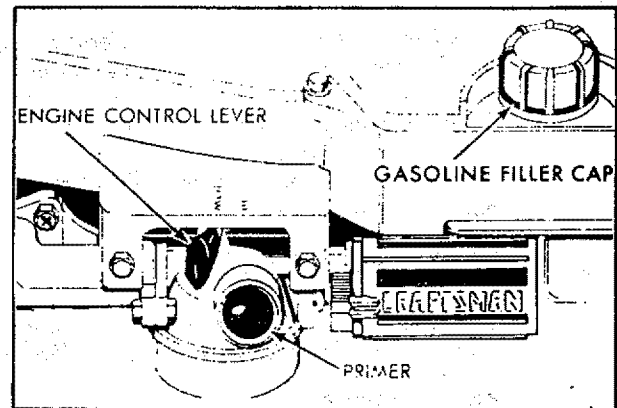

FIG. 14
The engine speed is controlled by a lever (red knob) located on right side of engine. It has "HIGH" and "LOW" positions. "HIGH" position is for starting engine, heavy cutting and better grass bagging. "LOW" position is for light cutting, trimming and fuel economy (See Fig. 14).
2. Push lever forward to "HIGH" position (See Fig. 14).
3. When starting a cold engine, push the primer five (5) times before pulling starter rope. Use firm pushes when pushing primer, wait several seconds between each push (See Fig. 14).